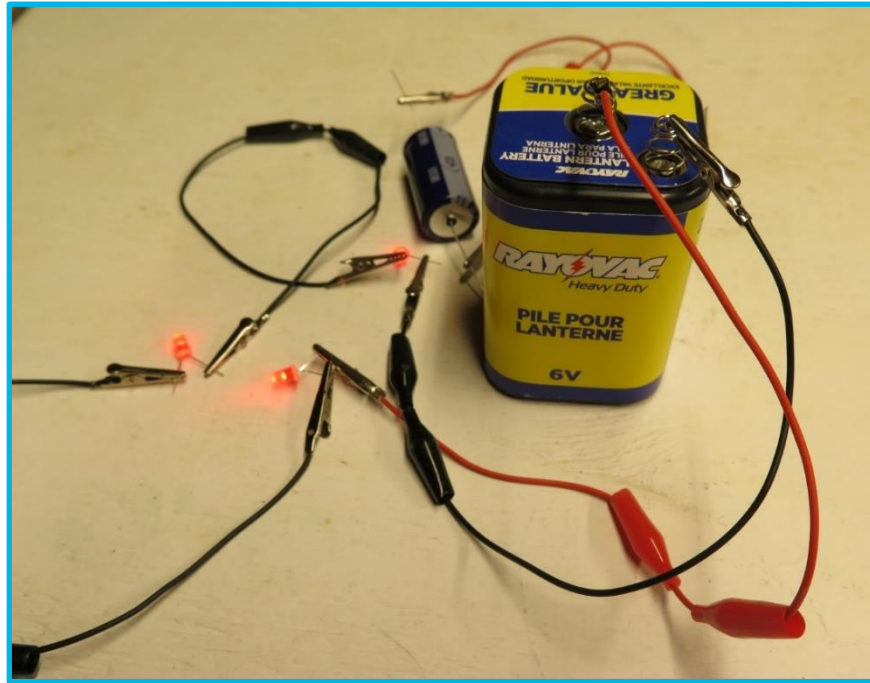

Figure 23
7. But as soon as the battery is disconnected, they go out in an instant. Then connect the capacitor to the battery also. (Capacitors do NOT have a polarity problem). The LEDs will flicker briefly as the capacitor "charges up" to 6 V, and then they resume their original brightness. Then disconnect the battery but keep the capacitor connected to the LEDs. You will find that for maybe 5 or 10 seconds, the LEDs remain bright, before gradually dimming down to a dull glow as the capacitor discharges through them. But they do not go out completely. LEDs consume very little energy, but nevertheless this does demonstrate that capacitors can indeed store equally small amounts of energy. You will also find that the capacitor alone, without the LEDs, will retain between 4.5 and 5 volts for 5 or 10 minutes or more. Figure 23 on the next page shows a simple set-up. The above demonstration is extremely inexpensive. The three LEDs cost about \$0.50 each and the capacitor about \$5.00. Total \$6.50. And everything is re-usable.